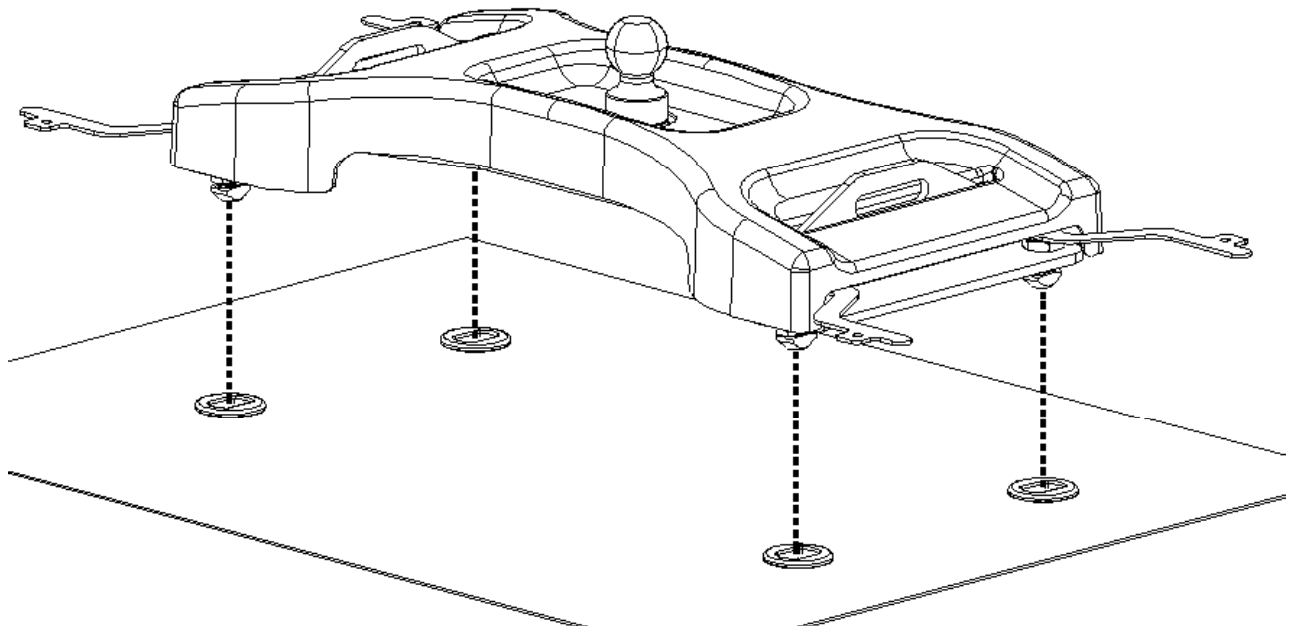

Fig. 18
2. Set *Signature Series* Gooseneck hitch onto the pucks, and rotate handles into unlocked position (approximately perpendicular with *Signature Series* Gooseneck Hitch Figure 14) until hitch drops into pucks on all (4) corners. See Figure 18.
2. Rotate (4) handles into unlocked position (perpendicular with *Signature Series* Gooseneck Hitch). Figure 14. Lift each side of hitch out of pucks separately, handles may have to be jiggled slightly to align anchors with puck holes to remove. See Figure 18.